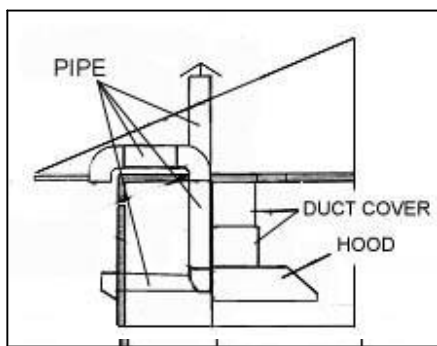

Figure 8
- Decide the ductwork and locations. Refer to Figure 8.